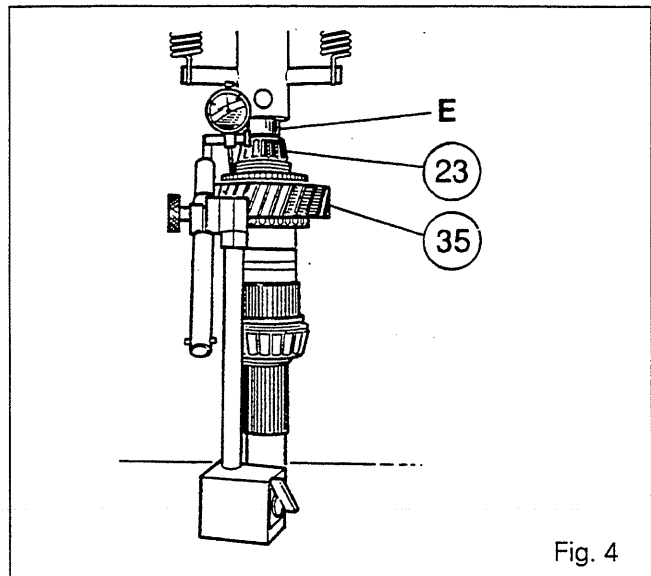

Fig. 4
7. Check that the output shaft (47) lubrication oilway is not blocked.
- bearing cup (22) onto the mainshaft
- bearing cups (34) and (36) into 3rd/hare gear (35)
- bearing cone (43) onto the output shaft (47) (after fitting washer (42)).
9. On output shaft (47), slide on the bearing cones (33) (37), the preassembled gear (35) and two min. thickness shims (31). Fit bearing cone (23).
10. Place the assembled shaft in a vertical position, a locally manufactured spacer «E», which must only contact the ring of bearing cone (23). Using a press, apply moderate pressure to the spacer to seat the cone correctly on its shoulder (Fig. 4).
12. Place a dial gauge on the machined face of the 3rd/hare gear (35) (Fig. 4).
16. Depending on the end float found, select the thickness of shims (31) necessary to obtain **J2**.
17. Fit sealing ring (28) into the groove of a shim (31). To facilitate reassembly of the gears, remove cover plate (70).